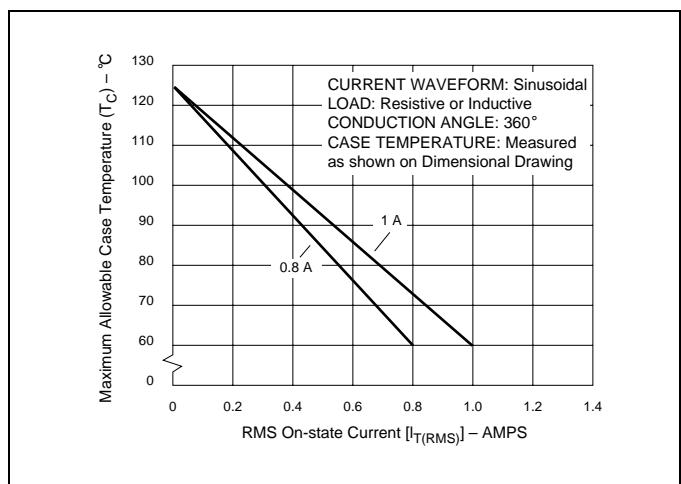
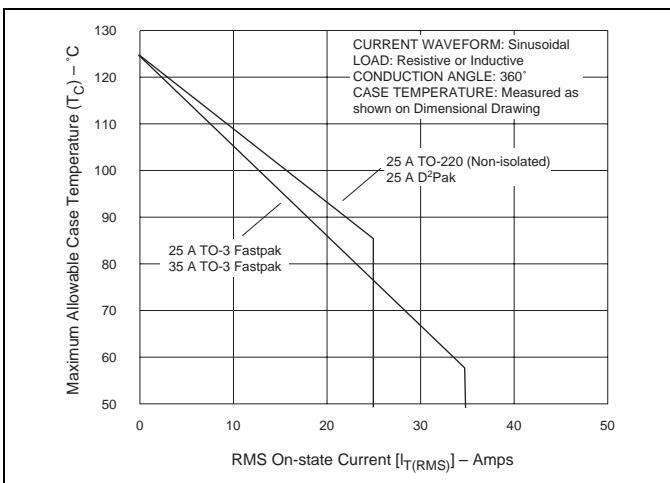
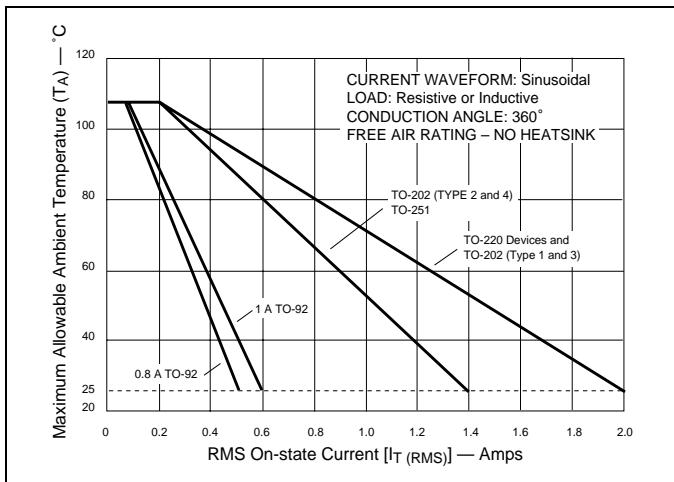
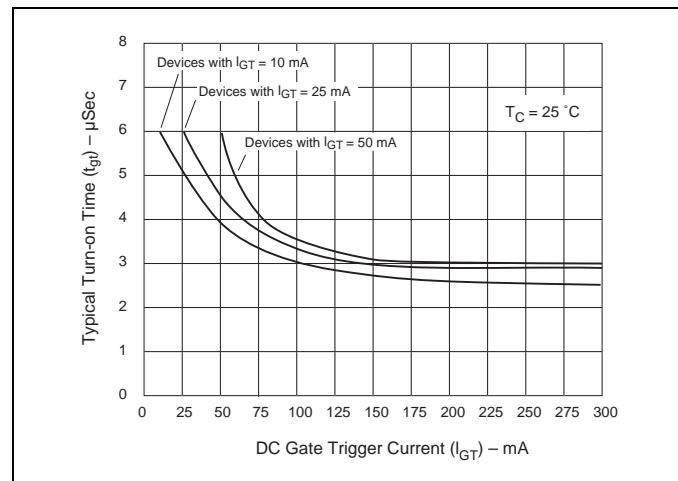

Figure E2.1 Maximum Allowable Case Temperature versus On-state Current (0.8 A and 1 A)
Figure E2.6 Maximum Allowable Case Temperature versus On-state Current (25 A and 35 A)
Figure E2.7 Maximum Allowable Ambient Temperature versus On-state Current
Figure E2.15 Turn-on Time versus Gate Trigger Current (Typical)
- (1) For either polarity of MT2 with reference to MT1 terminal
- (2) For either polarity of gate voltage (VGT) with reference to MT1 terminal
- (3) See Gate Characteristics and Definition of Quadrants.
- (4) See Figure E2.1 through Figure E2.7 for current rating at specific operating temperature.
- (10) See Figure E2.15 for tgt versus IGT.
- (11) See package outlines for lead form configurations. When ordering special lead forming, add type number as suffix to part number.
- (12) Initial on-state current = 200 mA dc for 0.8 A to 10 A devices, 400 mA dc for 15 A to 35 A devices
- (13) See Figure E2.1 through Figure E2.6 for maximum allowable case temperature at maximum rated current.
- (14) Pulse width ≤ 10  $\mu$ s; IGT ≤ IGTM
(15) RL = 60  $\Omega$  for 0.8 A to 10 A triacs; RL = 30  $\Omega$  for 15 A to 35 A triacs
(16) TC = TJ for test conditions in off state
(17) IGT = 300 mA for 25 A and 35 A devices
(18) Quadrants I, II, III only
(19) Minimum non-trigger VGT at 125 °C is 0.2 V for all except 50 mA MAX QIV devices which are 0.2 V at 110 °C.